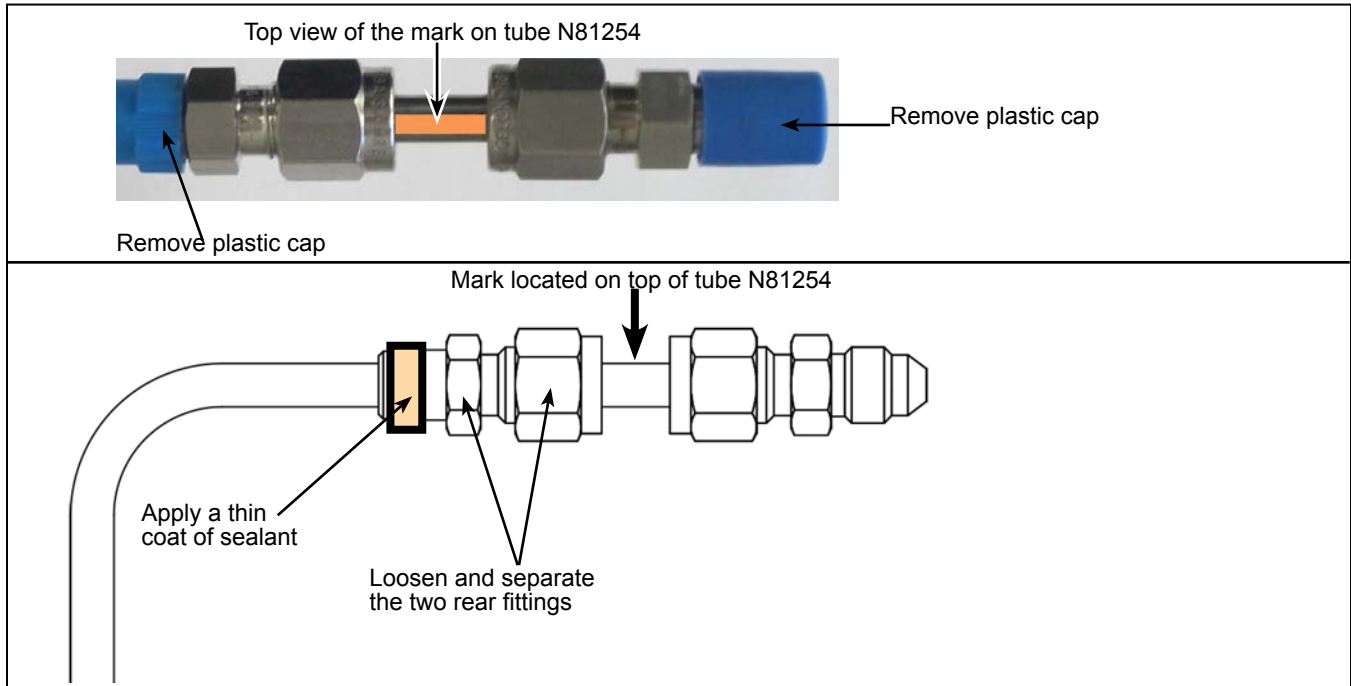

Figure 4 - Inspection and Preparation of Rigid Supply Tube N81254
- 1.10. Inspect if the top position of rigid supply tube N81254 is marked for alignment during installation. Mark the tube using an indelible marker if no mark is present on top of the tube. See Figure 4 for the position of the mark.
- 1.11. Remove the plastic protection on the fitting of the rigid supply tube. See Figure 4.
- 1.12. Loosen and separate the two rear fittings and apply a thin coat of sealant on the fitting indicated in Figure 4.